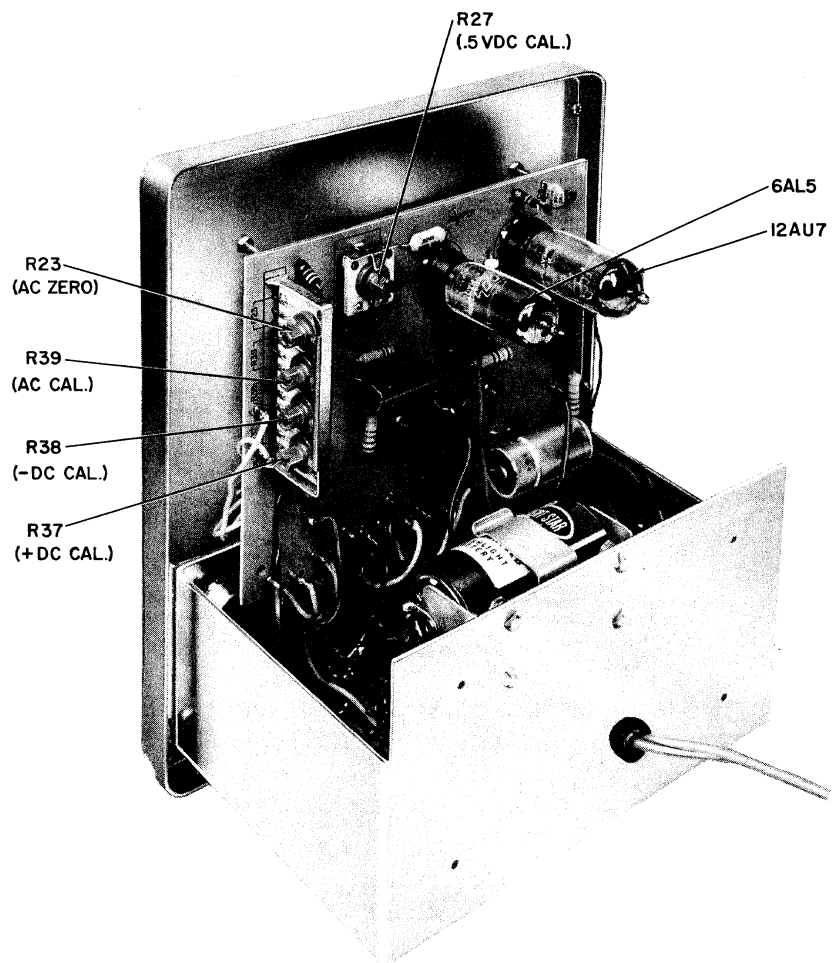

FIGURE 1
4. Place the RANGE switch in the 1.5V position. The meter should still indicate zero. If not, adjust R23 (see Figure 1) until it does.
3. With the source operational, note that the Model 235 indicates the correct voltage. If not, adjust R39 (see Figure 1) until it does.
4. Connect the Uniprobe tip to the battery - (negative) terminal, and the ground lead to the battery + (positive) terminal. The meter should indicate 3.10 volts. If not, adjust R38 (see Figure 1) until it does.
1. Perform the same steps as for the -DC Ranges except place the FUNCTION switch in the +DC V position, and reverse the connections to the Uniprobe. In this case, use R37 (see Figure 1) for +DC V adjustment.